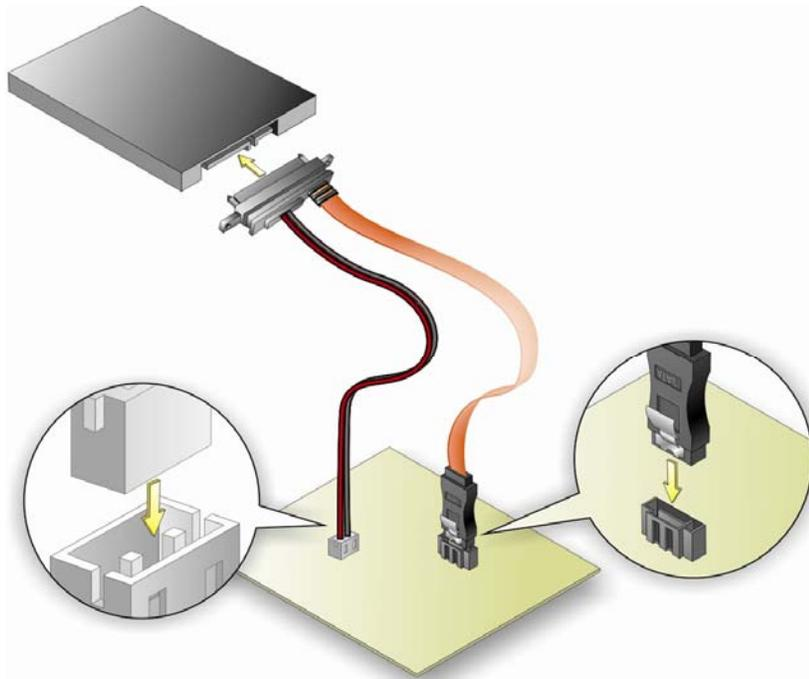

Figure 4-20: SATA Drive Cable Connection
- Step 2:** **Insert the cable connector**. Insert the cable connector into the on-board SATA drive connector and the SATA power connector. See **Figure 4-20**.
Step 3: **Connect the cable to the SATA disk.** Connect the connector on the other end of the cable to the connector at the back of the SATA drive. See **Figure 4-20**.